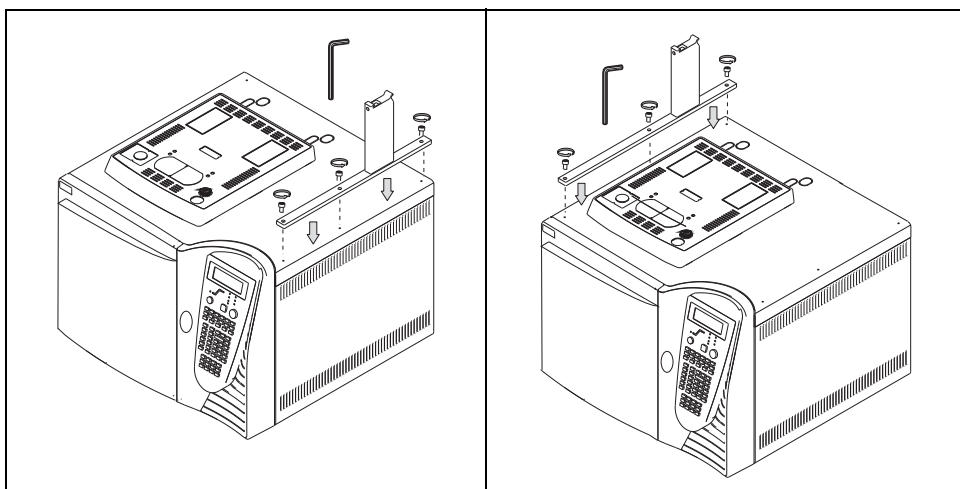

Figure 3-16. Sampler Supports Installation on two TRACE GC Ultra for MS
3. Mount each sampler support on the GCs paying attention to have the support leg turned toward the back of the GC as shown in Figure 3-16.